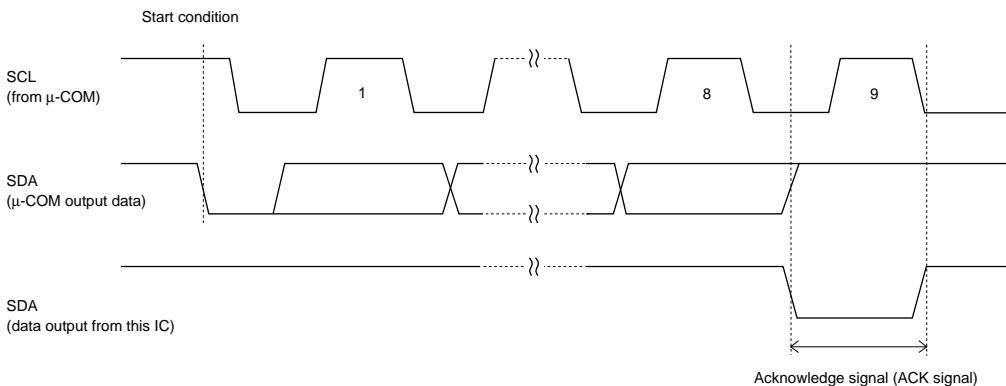

Fig. 7 Acknowledge signal (ACK signal) response
(2) Device addressing
(3) ACK signal
- In the various reading operations, 8-bit data (read data) is output, and then the acknowledge signal (ACK signal) in the LOW state is detected. If the acknowledge signal (ACK signal) is detected and no stop condition is sent from the master (microcomputer) side, this IC continues to output data. If the acknowledge signal (ACK signal) is not detected, this IC interrupts the transmission of data, recognizes a stop condition (stop bit), and terminates the reading operation. The IC then enters the standby mode. (Refer to "Fig. 7 acknowledge signal (ACK signal) response.")